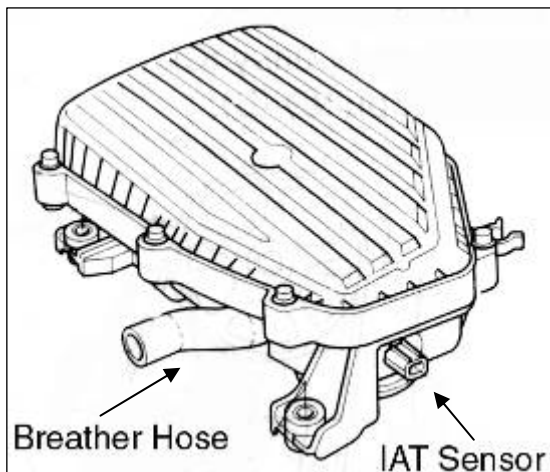

Fig. 1
- There is one breather hose and one intake air temperature (IAT) sensor. Refer to the following diagrams for the identification of these components. **(Fig.1)**